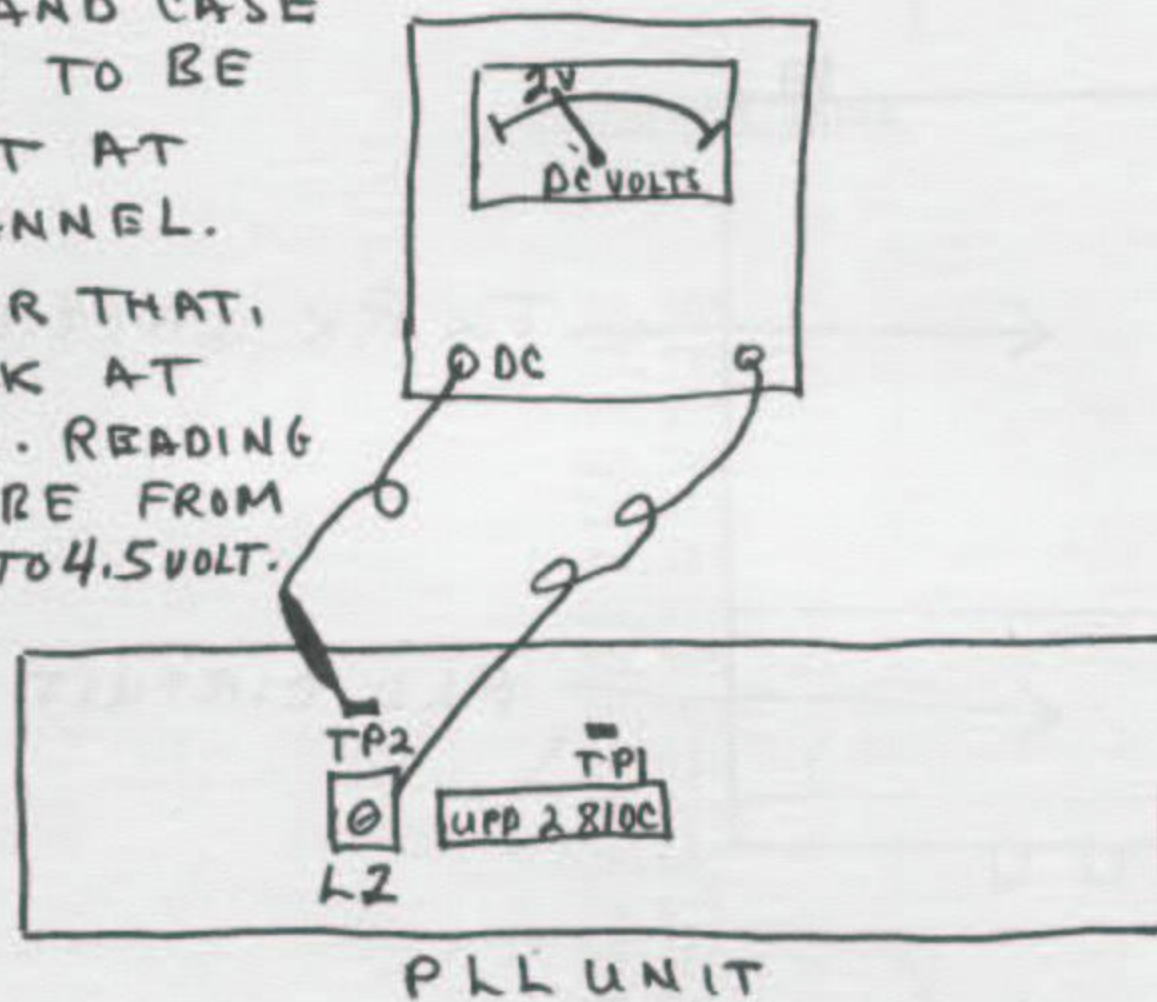

FIG 3 (TUNE UP PLL UNIT) No.1
1. Prepare the tester and connect it between test point 2 (TP2) and any minus (-) ground (earth). Next, set to channel 1 position - the tester range should be 2 - 10 Volts (DC).
"L2" should be tuned up as the tester indicates 2 Volts. As you are tuning up the coil, the channels should be checked individually 1 thru 40 so that as the coil is being tuned, the tester will show a balanced change from 2 Volts to about 4.5 Volts (DC) on each of the channels. (see figure 3).
- 1.1 Re-tune the coils, L208 and L209 and turn VR10 shown as fig. 3. Then you get 5 to 6W.
Turn VR1 shown as fig. 3.